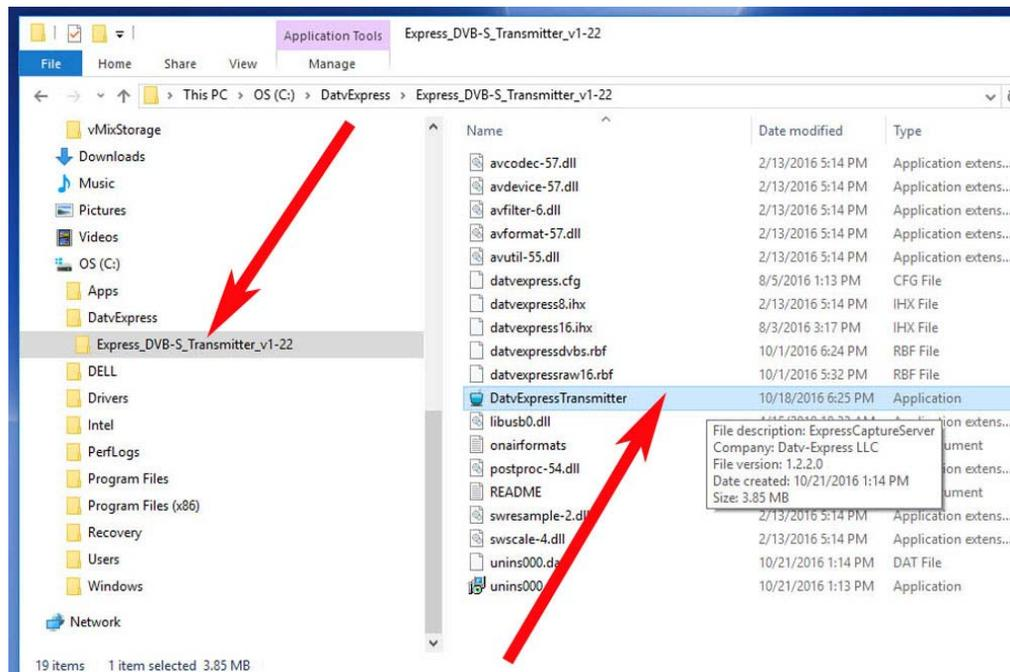

Figure 7 – The SET-UP.exe should be allowed to default to installing software inside a Directory called DatvExpress (see left arrow)
- The new EXE file for the Express_DVB-S/-S2_Transmitter software is the file named “DatvExpressTransmitter.exe” (see right arrow in **Figure 7**).